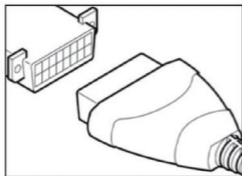

Figure 3.1.3
3. Properly connect the scan tool to the DLC (See Figure 3.1.3). The cable connector is keyed and will only fit one way.